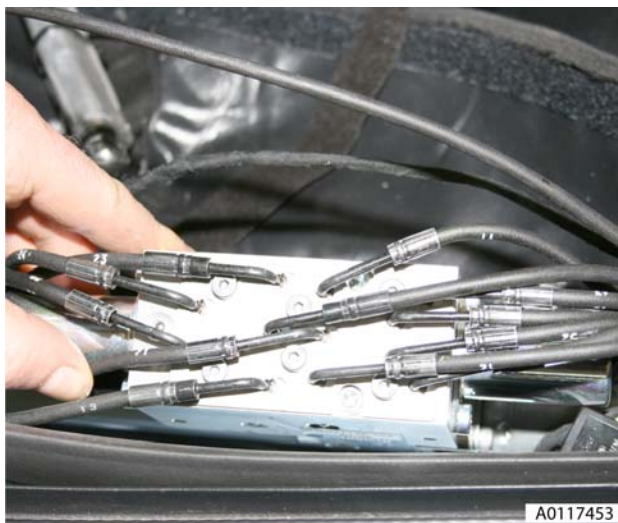

Figure 8
15. Loosen (x6) screws on pump retaining plate (see Figure 8).